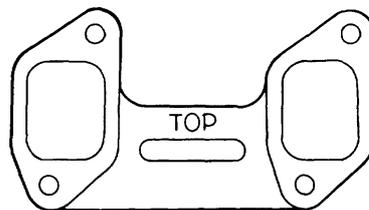

Figure 5 Exhaust Manifold Gasket Installation
- a. Position two new exhaust manifold gaskets on the cylinder head so that the word 'TOP' is toward the manifold (Figure 5).